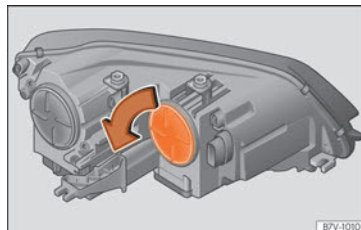

**Fig. 64** In the engine compartment: turn signal cover.
- Rotate the cover  **Fig. 64** in the direction of the arrow and remove it.
- Rotate the cover  **Fig. 64** in the opposite direction to the arrow as far as it will go.